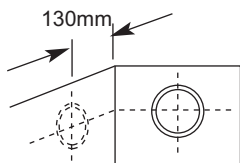

Fig. 15 For Side Flue Exit
3. Mark the position of the centre of the flue hole (rear exit). For side flue exit, mark as shown (Fig. 15).